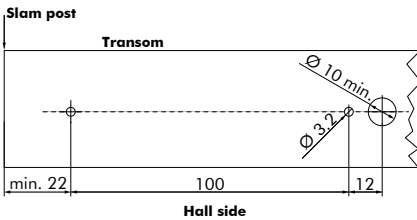

Figure 13: Drilling template
1. Drill two 3.2 mm (1/8 inch) holes for the mounting box with 100 mm distance into the transom. Drill a 10 mm (3/8 inch) hole into the transom for the sensor cable (Figure 13).